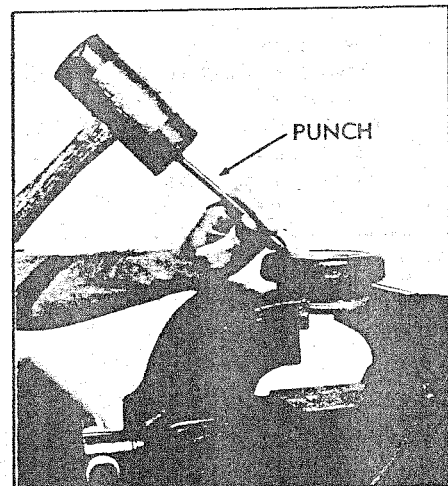

Figure 3. Tap Retainer Nut to Remove
8. Remove stem, adapter, and retainer assembly nut. Retainer nut may be readily removed by inserting a punch in a hole in the retainer nut face, and tapping the nut in a counterclockwise direction. See Figure 3.